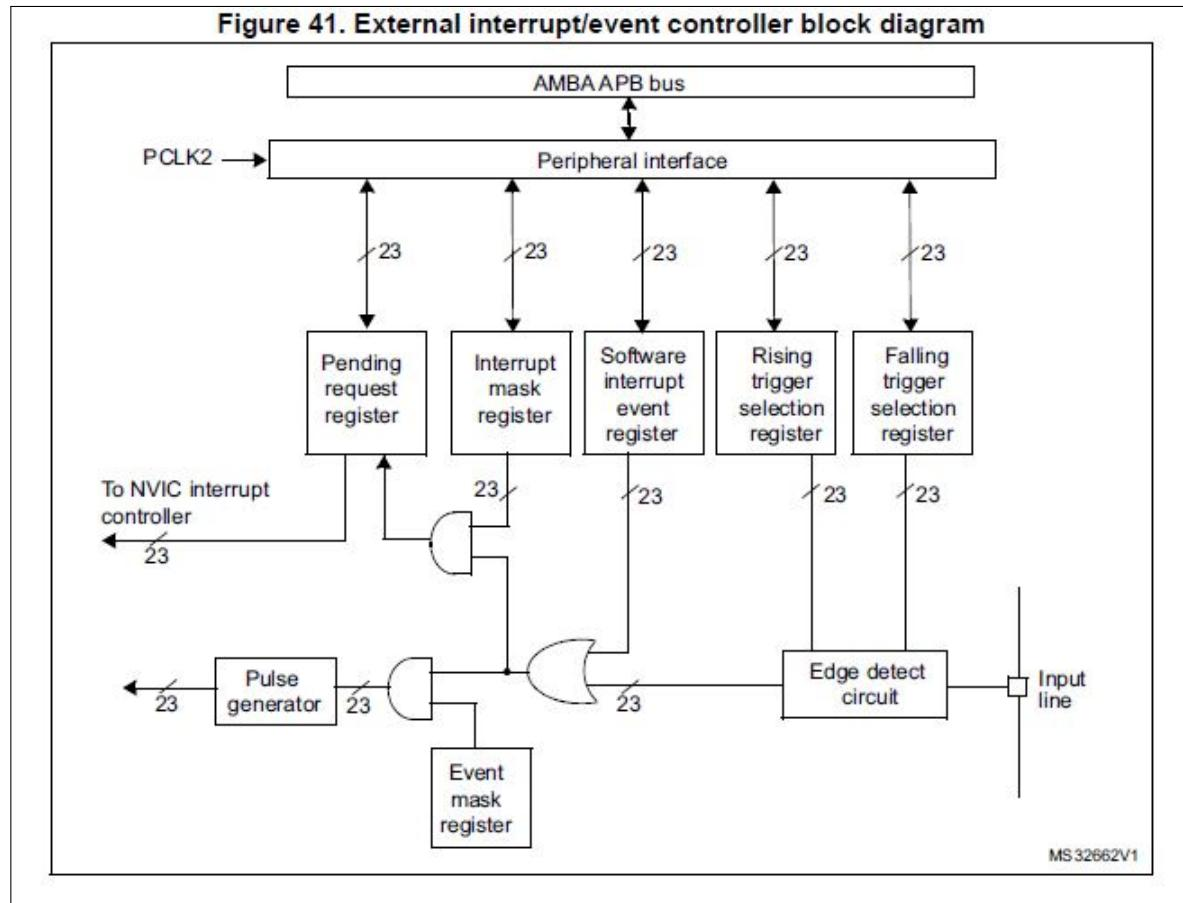

Figure 6.1: EXTI Peripheral from STM to handle some peripheral interrupts
To handle peripheral interrupts, STM has what is called EXTI, that is external interrupt controller. Its block diagram is shown in Figure 6.1.
- In Figure 6.1, we have several registers such as Rising trigger selection, falling trigger selection